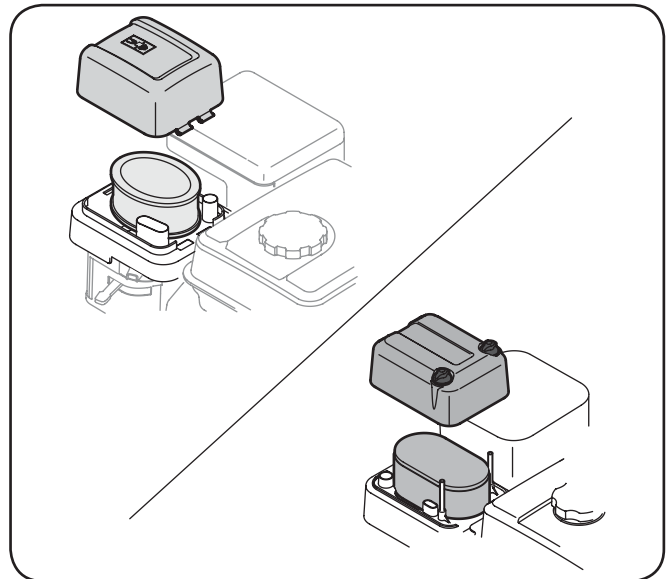

Figure 6-5
1. Press the tab on the air filter cover and lift the cover, or un-thread the thumbscrews, depending on the model of engine you have. See Fig. 6-5.